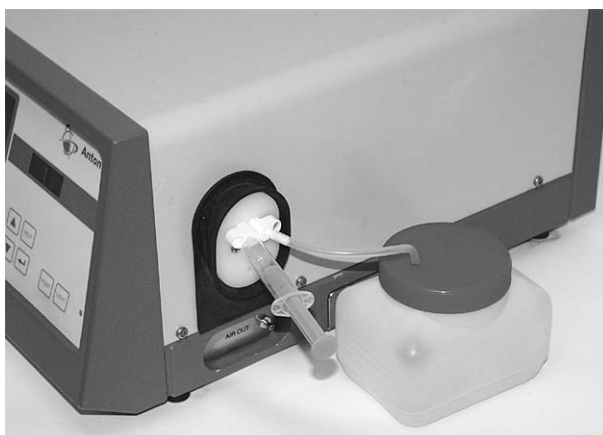

Fig. 5 - 4 Placing of the waste vessel
16. Place the supplied waste vessel below the rear adapter (see Fig. 5 - 4) and connect the adapter to the waste vessel with an appropriate hose (from the accessory box).